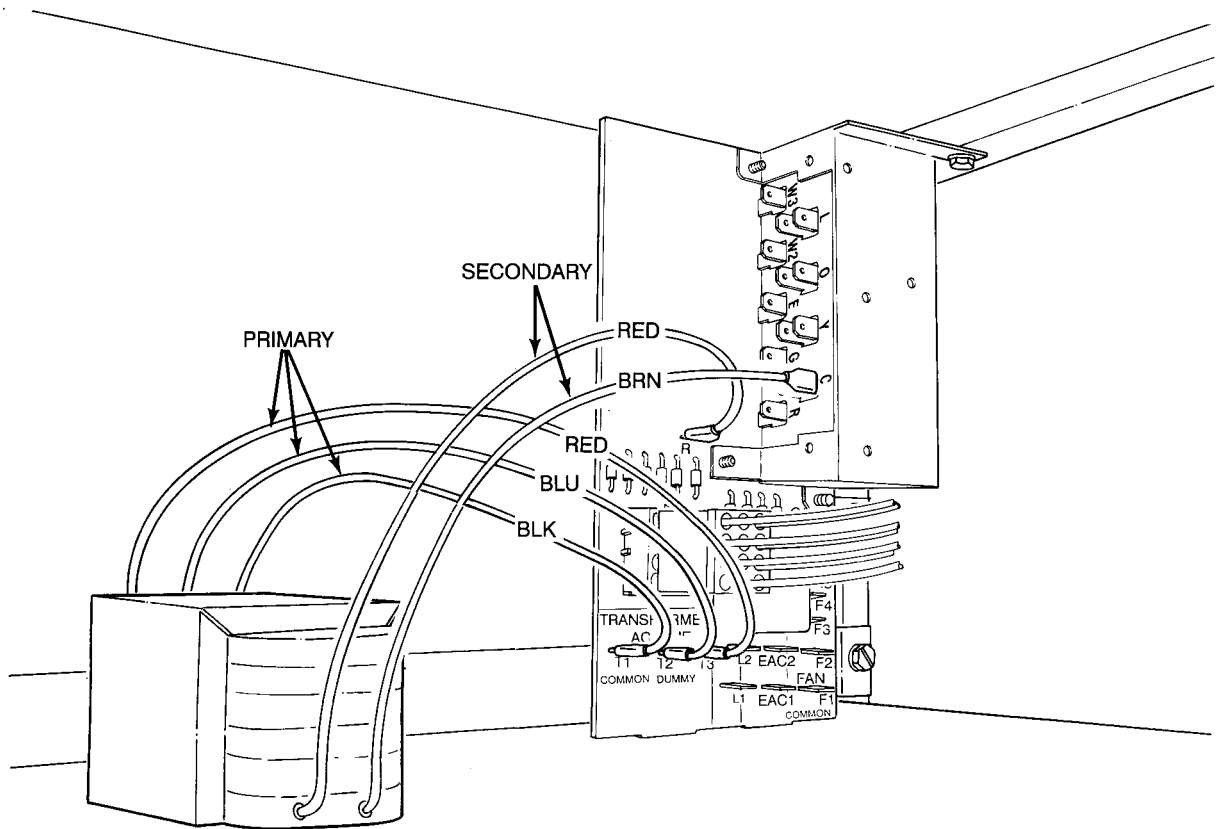

Fig. 2—230-Volt Transformer Connections
**NOTE:** Transformer is factory wired for 230-v operation (See Fig. 2). All wiring must be NEC Class 1 and must be separated from incoming power leads.
**NOTE:** When using 208-v supply, connect red primary lead to T2 and connect blue primary to T3 (See Fig. 2.). The secondary circuit of the transformer is protected by a 5-amp fuse mounted on the printed- circuit board.